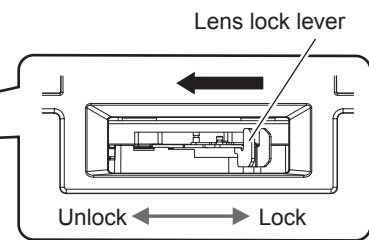

Fig. 3
3) Confirm that the lens lock lever is positioned at the Unlock side. (Fig. 3)
- If the lens lock lever is at the Lock side (Fig. 5), pinch the lens lock lever and turn to the Unlock side. (Fig. 3)
- 3) **While holding the projection lens, pinch the lens lock lever and turn to the Unlock side. (Fig. 3)**